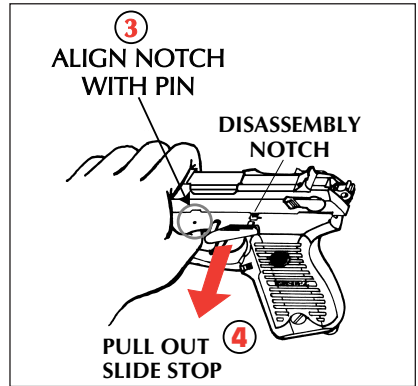
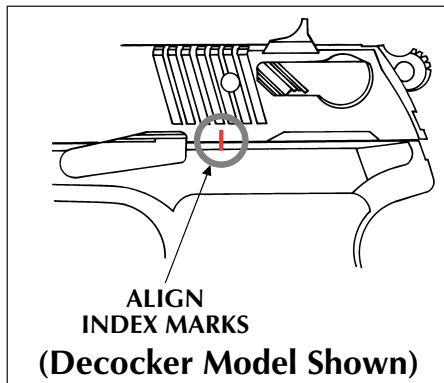

FIGURE 5A
FIGURE 5B
4. Remove fingers from ejection port. Grasp slide tightly. Now press down on slide stop and allow slide to move slowly forward until the slide stop spring retainer pin is aligned with the front edge of the slide stop notch. Press in on right-hand end of slide stop and pull slide stop out of frame to the left until it locks in its withdrawn position. (See Figure 5A, below). Do not attempt to pull it completely out of the frame. For the P94DC pistol, press down on the slide stop and allow the slide to move slowly forward until the vertical index marks on the left side of the frame are aligned. (See Figure 5B, below)